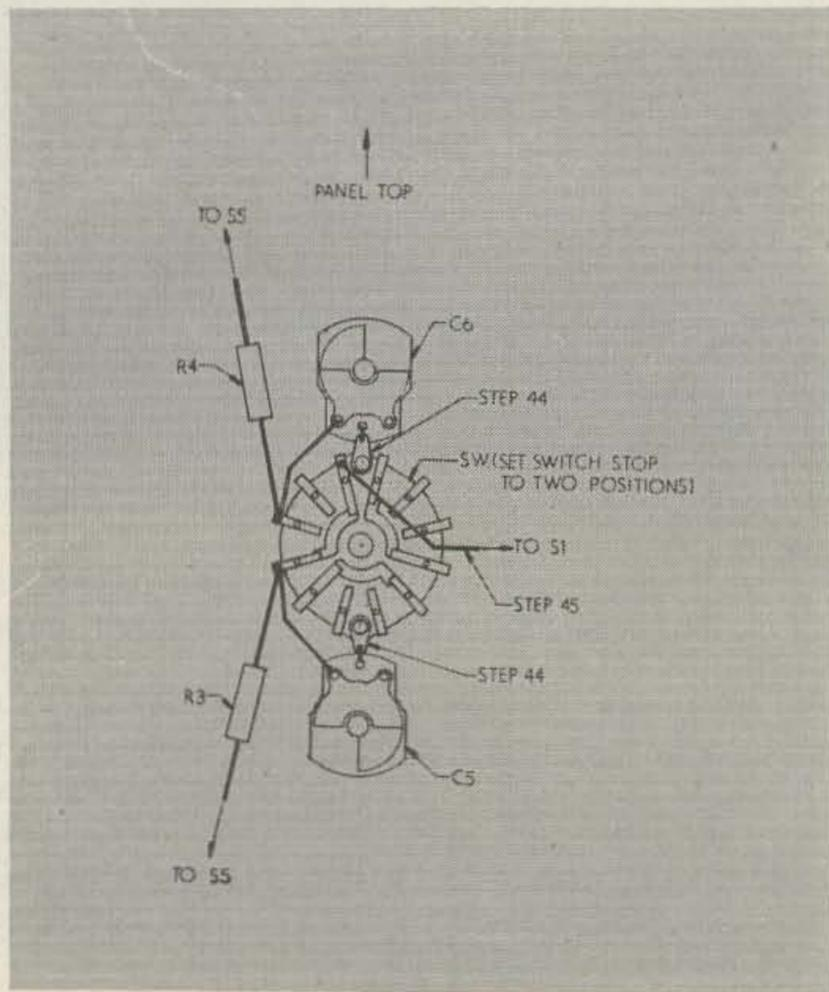

Fig. 5—Switch Assembly
44. Attach the "unknown" ground lug to the panel next to the "unknown" coax connector hole, as shown in Fig. C16. Attach the "receiver" coax connector to the panel, from the inside. Attach the "IND-CAP" switch to the center of the panel, using an extra nut to position the switch as far as possible from the panel. Orient the switch as shown in Fig. 5. Place a soldering lug under each nut. Mount C5 and C6, using $\frac{3}{8}$ -inch spacers between the capacitor frames and the panel. Connect the
rotors of C5 and C6 to the lugs of the switch with No. 18 tinned wire as shown in Fig. 5.
45. Solder a $2\frac{1}{2}$ -inch length of No. 18 tinned wire to the "COMMON" terminal of the switch. Connect the stators of C5 and C6 to the remaining switch terminals, as well as resistors R3 and R4. Complete connections are shown in Fig. 5.